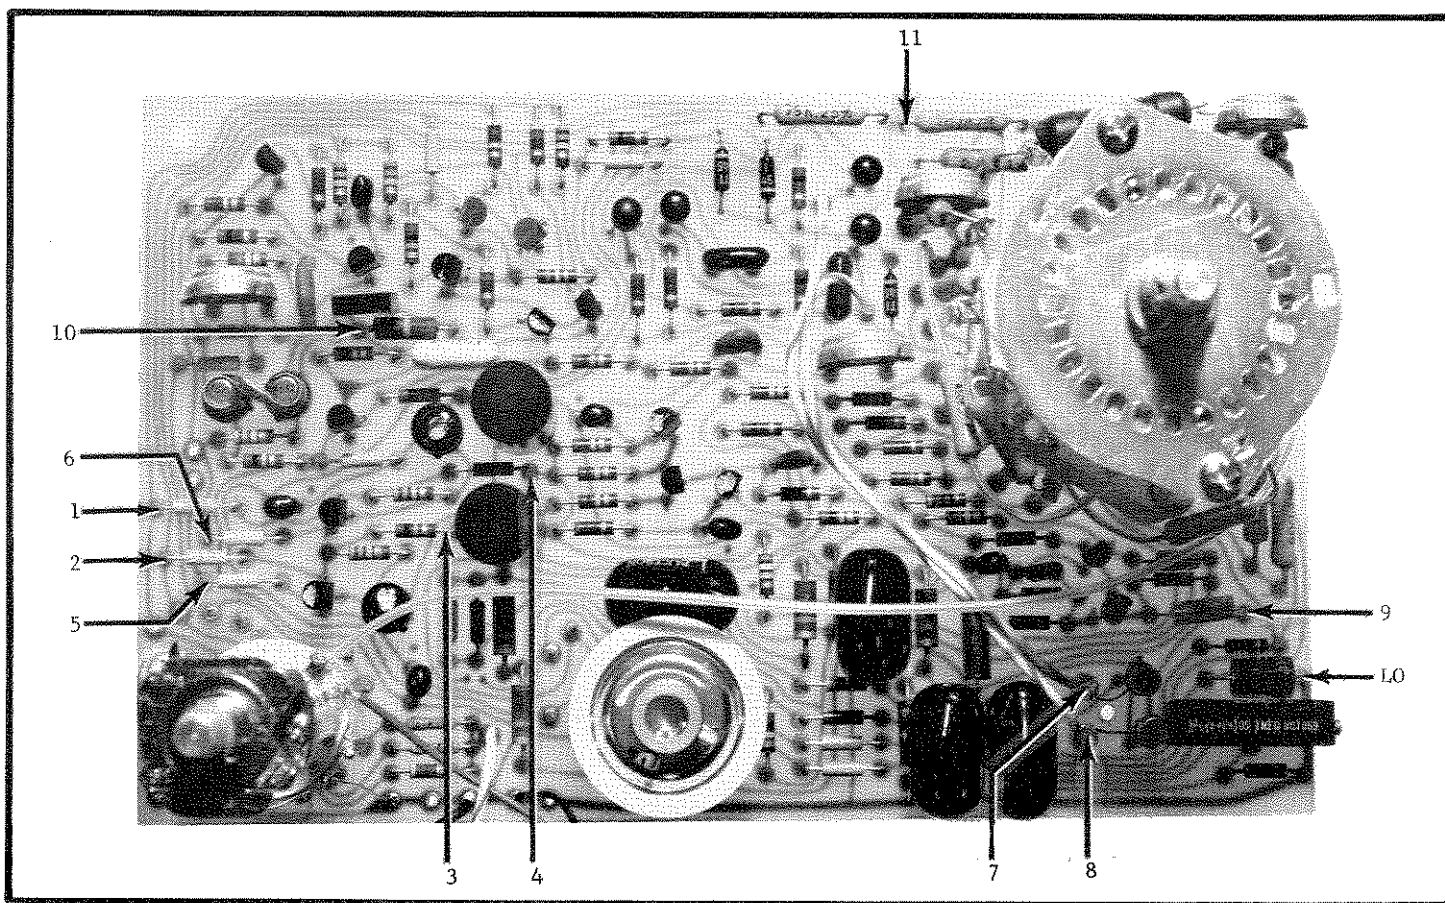
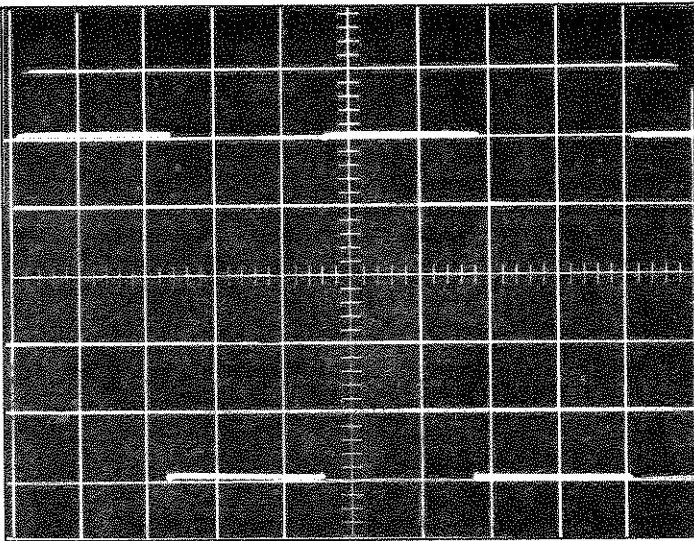
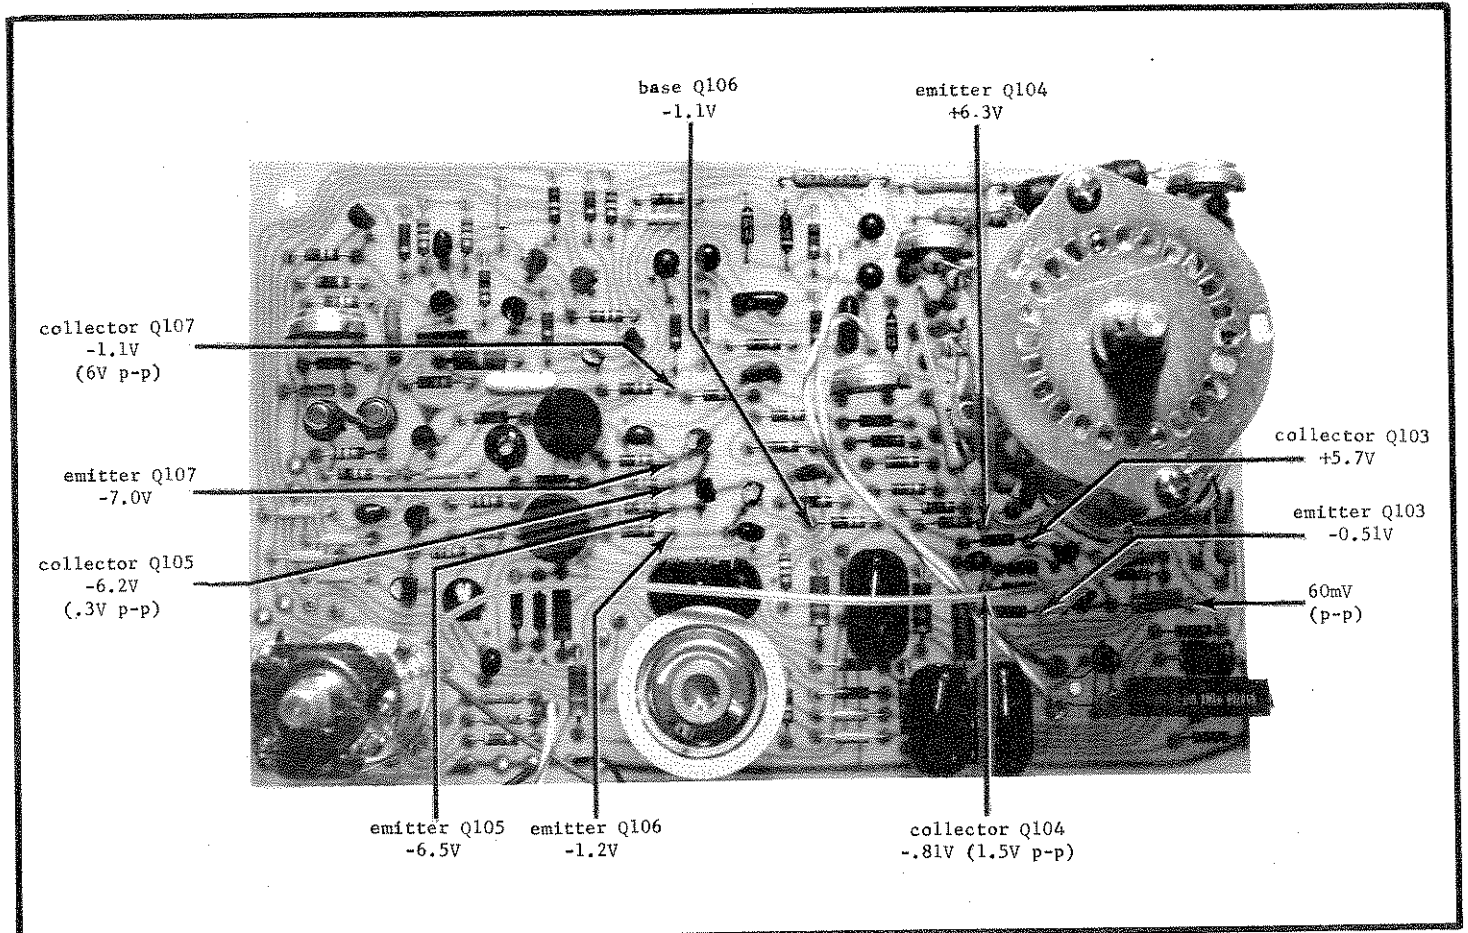

FIGURE 4. Test Points Within Model 155 For Troubleshooting Procedures.
FIGURE 5. Multivibrator Output Signal. Scale is 2V/div. vertical and 1 msec/div. horizontal.
FIGURE 6. Test Points Within the AC Amplifier Circuit and Indicated Nominal Voltages to be Expected at the Test Points.
b. If the batteries are satisfactory, set the Range Switch to 1000 VOLTS, Power Switch to ZERO CHK and check the voltage at the plus and minus battery check points (these are points 1 and 2 given in Figure 4). The voltage at each point should be approximately +16.2 and -16.2 volts respectively.
c. If the plus and minus battery supplies are found to be satisfactory, then check the filtered plus and minus battery supplies (these are points 3 and 4 given in Figure 4). Check these supplies for approximately plus and minus 14.9 volts respectively. If unobtainable, then the fault is in the associated circuitry components. Find the component and replace it.
d. If the filtered battery voltages are satisfactory, check the regulated plus and minus 6 volt supplies for +6 volts $\pm 2V$ and -6 volts $\pm 2V$ respectively. Check these voltages at points 5 and 6 shown in Figure 4. If these values are unobtainable, then the fault lies in the associated circuitry. Find the faulty component and replace it.
e. If the regulated voltage supplies are satisfactory, then the trouble may lie in the multivibrator circuit. Check the multivibrator waveform with a dc coupled Model 503 Oscilloscope at the gates of FET Q101 and Q102 (test points 7 and 8, Figure 4). Set the Oscilloscope to 2 volts per division vertical and 1 millisecond per division horizontal. The waveform should be near symmetrical 7 to 12 volts peak-to-peak (Figure 5). A little overshoot may be observed on some units.
2. After either repairing the multivibrator or replacing the FETs, and if both chopper drivers are present, check for a signal at the output of the FETs (point 9, Figure 4).
f. Check for a square wave at the demodulator test point, (point 10, Figure 4). If there is no square wave, then the fault lies in the ac amplifier consisting of transistors Q103 to Q107. Find and replace the defective transistor(s). To localize
the trouble in the ac amplifier refer to Figure 6. It shows test points within the ac amplifier circuit and indicates nominal voltages to be expected at the test points. Nominal voltage measurements are made with the feedback test point (point 11 in Figure 4) jumpered to low, the Model 155 Range Switch set to 1000 VOLTS and the Power Switch at ZERO CHK. Voltages may be slightly higher or lower than the nominal voltage listed.
Figure 4 shows the location of internal test points used in calibrating the Model 155.
c. If the Model 155 is inoperative, that is if the meter pins, etc., then check the voltage at the test points given in Table 8 to the values indicated in Table 8. If these voltages are found satisfactory, check the multivibrator per paragraph 5-4. If all the above checks are satisfactory, localize the trouble to the ac or dc section of the amplifier by shorting the demodulator test point (point 10, Figure 4) to low and adjusting DC Amplifier Balance Potentiometer, R151, from one end to the other. If potentiometer R151 can swing the meter full scale from + to - and vice versa, the problem is in the ac section of the amplifier. If it cannot, the problem is in the dc section. (Refer to the troubleshooting procedures 4-6).
Test Points within the Model 155. Table refers to the test points called out in Figure 4, paragraph 4-6, and gives the voltage expected at each point.
a. Connect the Model 5210A Frequency Meter between the multivibrator test point (point 11, Figure 4) and low. Adjust the Multivibrator Frequency Set Potentiometer, R178, for a reading of 220 Hz ±3 Hz.
b. Then connect a dc coupled Model 503 Oscilloscope between the multivibrator test point and low, and observe the waveform. The Oscilloscope should be set at 2 volts per division vertical and at a 1 millisecond sweep. The wave form should be near symmetrical 7 to 12 volts peak-to-peak square wave (refer to Figure 5 in paragraph 4-6e).